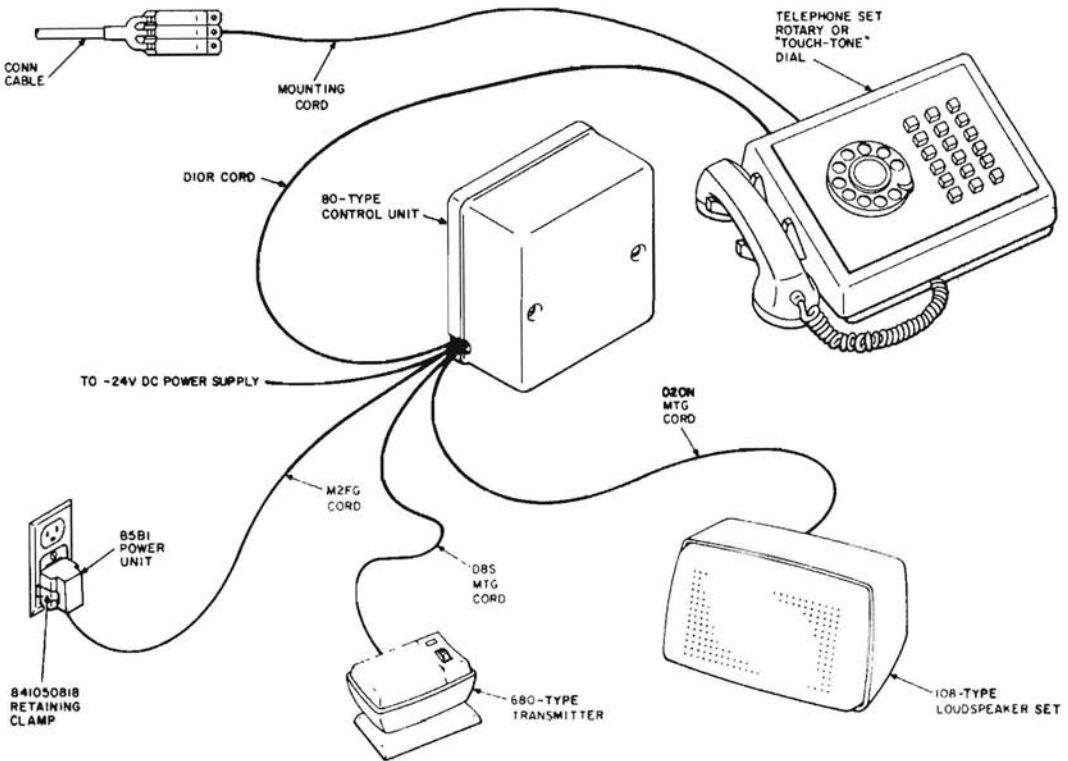

Fig. 2—Typical Arrangement of 4A Speakerphone System With 2- or 4-Wire Telephone Set
2.19 The 80-type control unit (Fig. 2 and 7) provides for connecting the 4A speakerphone system to either a 2- of 4-wire telephone transmission network. All standard operating features of the 4A speakerphone system are retained. Attached to the chassis of the control unit is a connector (same as that used in the 223-type adapter) to which the 108-type loudspeaker set, the 680-type transmitter and the 85B1 power unit are connected.